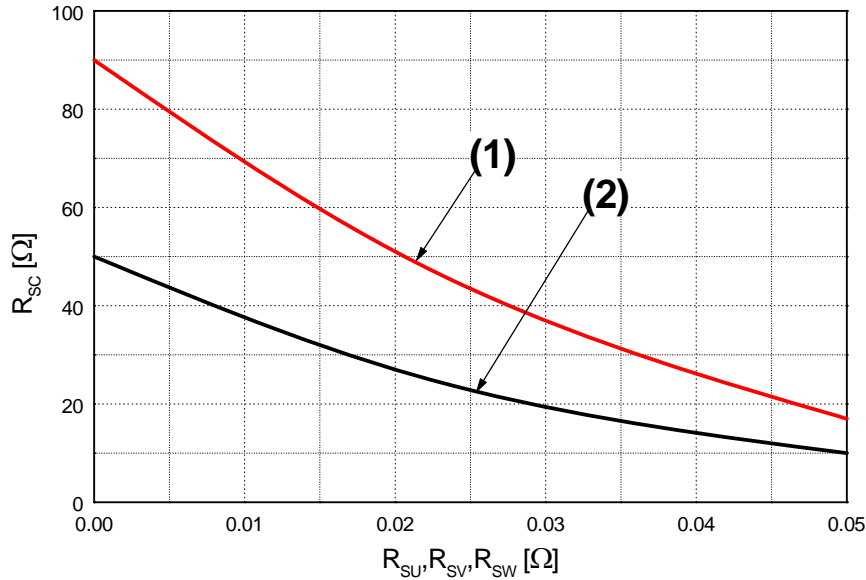

Figure 6. R_{sc} Variation by Change of Shunt Resistors (R_{SU} , R_{SV} , R_{SW}) for Short-Circuit Protection
- Short-circuit protection is functioning only at the low-sides. It would be recommended that the value of the external sensing resistor (R_{SC}) should be selected around 50 Ω in order to make the SC trip-level of about 45A at the shunt resistors (R_{SU}, R_{SV}, R_{SW}) of 0 Ω. For the detailed information about the relationship between the external sensing resistor (R_{SC}) and the shunt resistors (R_{SU}, R_{SV}, R_{SW}), please see Figure 6.